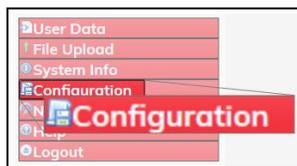

Figure 256: Configuration link
4. On the **Menu** list, click the **Configuration** link. Figure 256